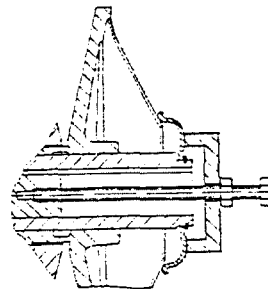

Fig.2
2. Spring loaded variable speed pulley. Unscrew axial tightening screw (12) OR screw (27) if with speed indicator, and remove end cap (10). With the aid of an extractor, gripping behind the hub flange of the pulley - remove the pulley (9) from the gearbox shaft, firstly remove the spring and spring retaining cap with a tooling aid.... See Fig.2. Then remove the pulley from the gearbox shaft as indicated in 3.1.3 point 1.
3. Motor and housing. Unscrew hexagon head screw (7) and remove motor. Unscrew hexagon head screw (4) and remove housing.